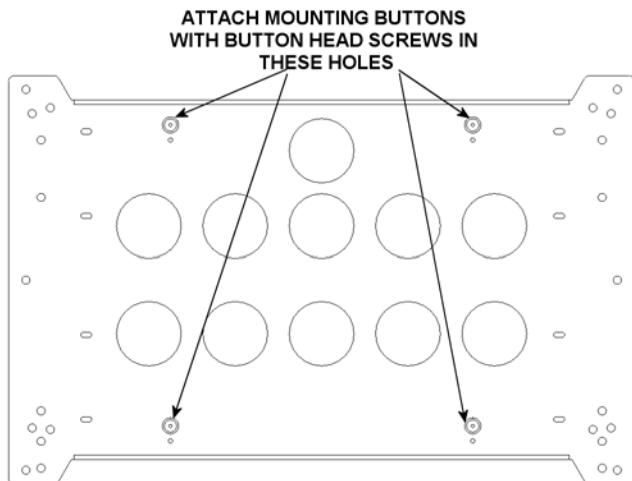
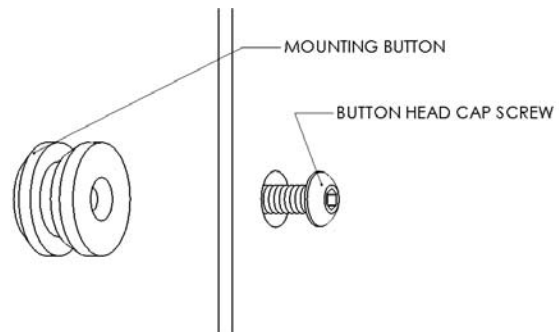

Figure 2
Figure 3
1. Using a 10-24 button head cap screw inserted from chamfered hole side of bracket, secure mounting button, with chamfered hole of mounting button (larger surface) facing bracket, to bracket (four places). See Figure 2 and Figure 3.